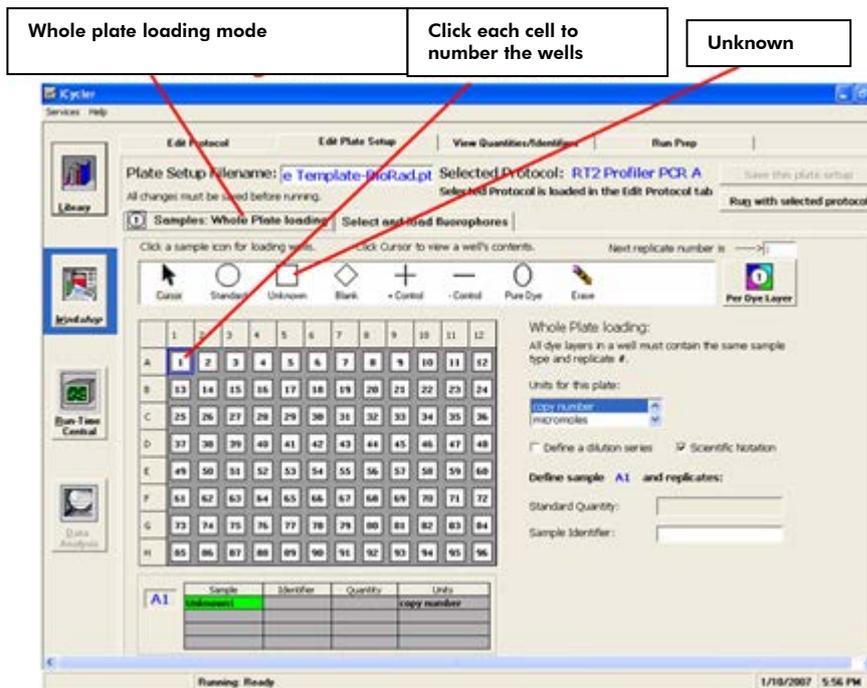

Figure 2. Plate setup — sample loading.
3. To set up a template file for “Plate Setup,” click on the “Library” module on the left panel and then select the “View Plate Setup” tab; click “Create a New Plate Setup” on the right. This will open the “Edit Plate Setup” tab in the “Workshop” module. Choose the “Whole Plate” mode. In the “Samples: Whole Plate Loading” tab (See Figure 2), click to select the icon for “Unknown.” In the diagram of the 96-well plate, click on each well one at a time to designate the sample type as “Unknown” and number the well.